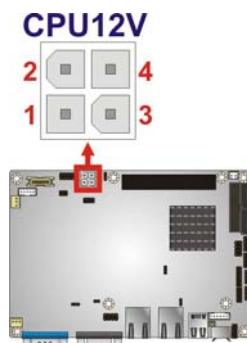

Figure 3-3: AT Power Connector Location
- CN Location:** See **Figure 3-3**